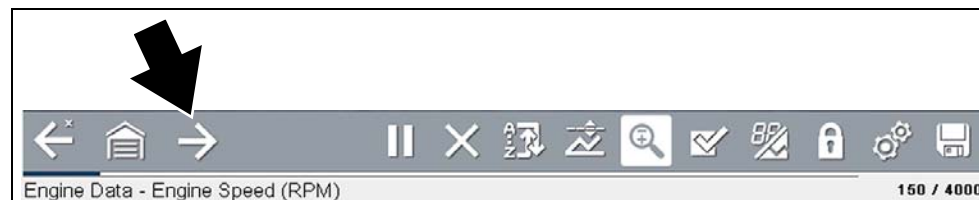

Figure 5-8
- To display the next data list, select the **Right Arrow** icon (Figure 5-8).